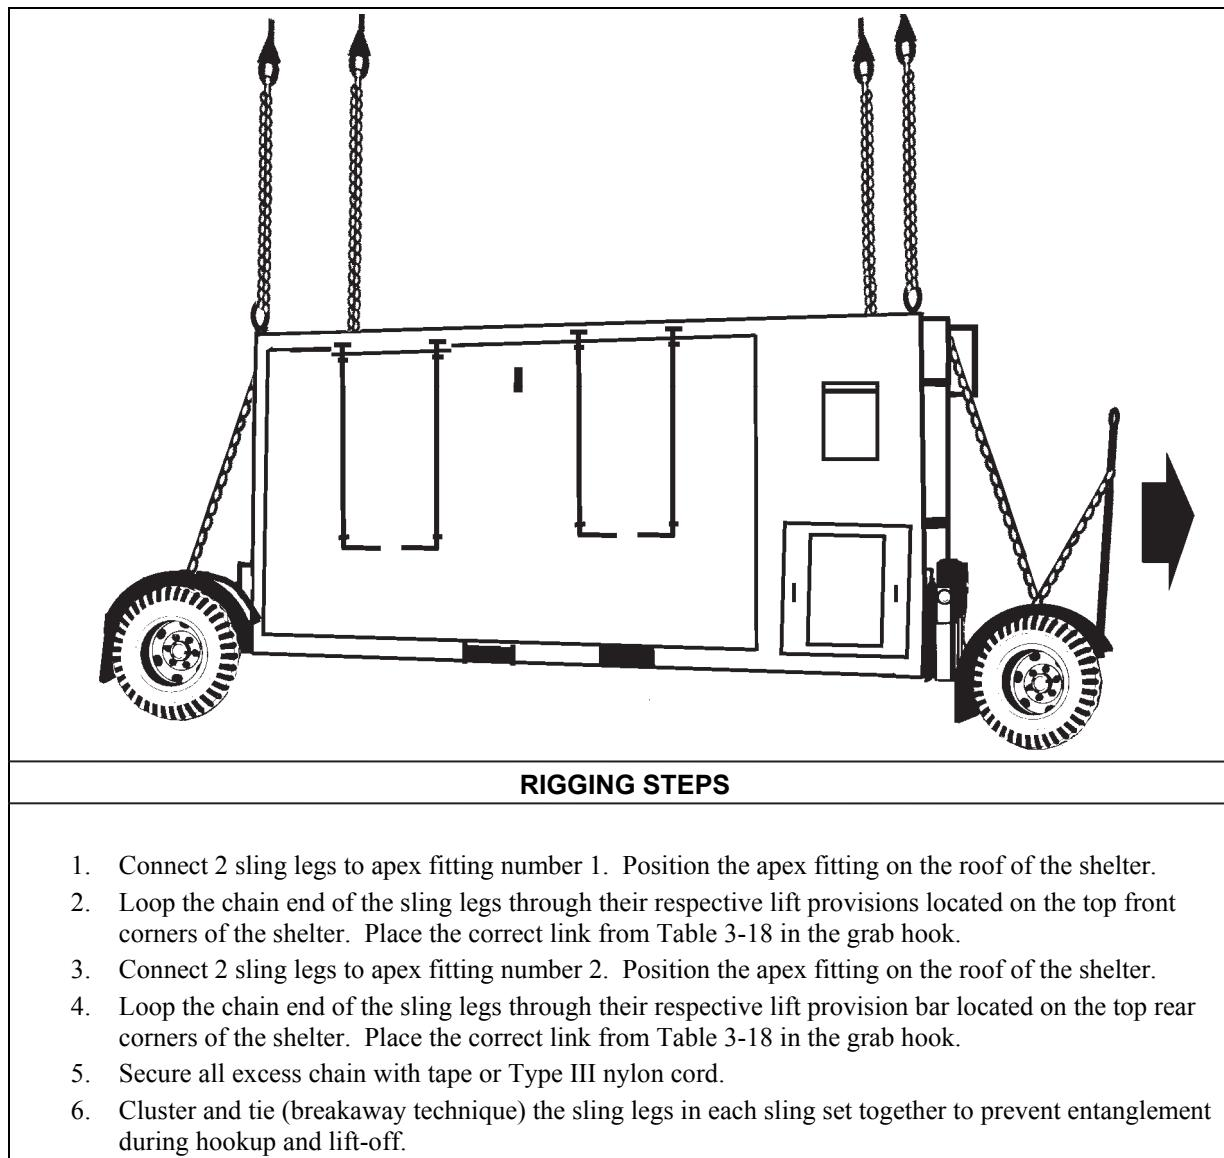

Figure 3-18. Assault Command Post with High Mobility Wheel Set
- **Rigging.** Rig the load according to the steps in Figure 3-18.